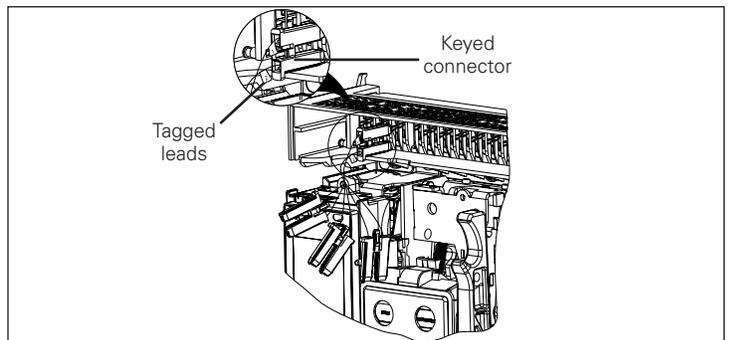

Figure 17. Leads and connectors.
1. Some electrical accessory leads are tagged with numbers associated with the applicable connection diagram located in instruction book TD013001EN. Leads are also supplied with keyed secondary connector plugs to ensure proper connections (Figure 17). If the trip indicator leads are not labeled, pre-printed labels are provided in the trip indicator kit.